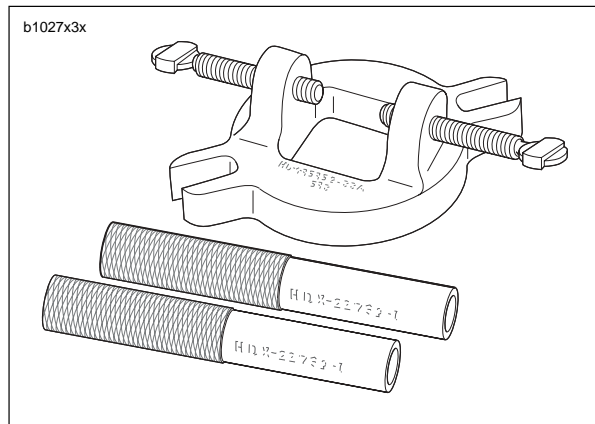

Figure 3-96. Connecting Rod Clamping Tool (Part No. HD-95952-33B)
1. See Figure 3-96. Secure connecting rod with CONNECTING ROD CLAMPING TOOL (Part No. HD-95952-33B).